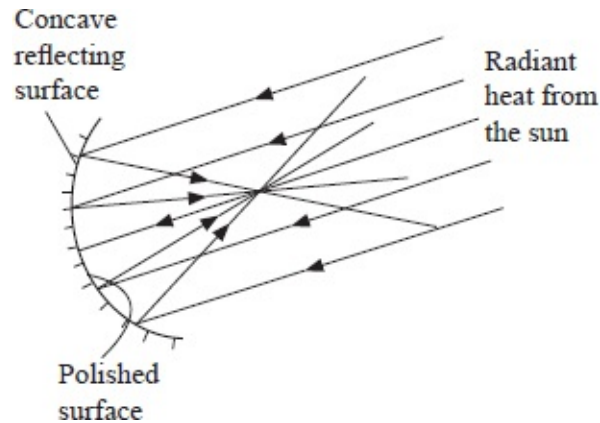

Fig. 7.31: Solar concentrator
4. In solar concentrators, electromagnetic waves in the form of radiant heat are reflected to a common point (focus) by a concave reflector. The temperature at this point can be sufficiently high to boil water see figure 7.31.